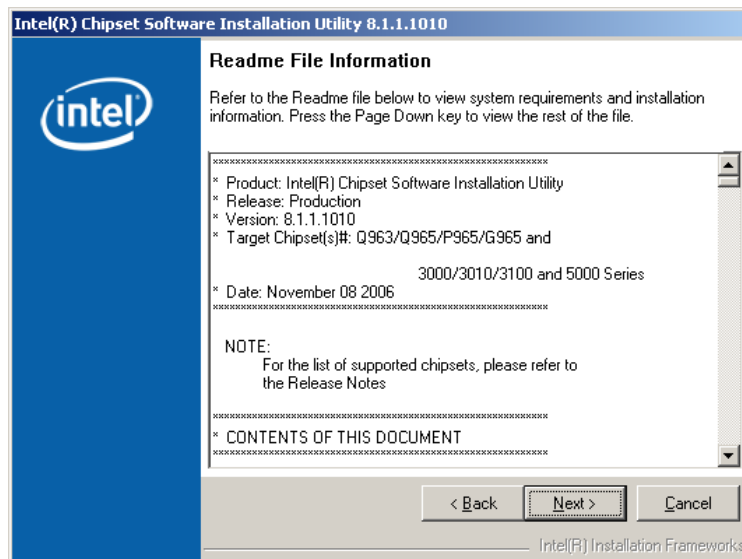

Figure 7-7: Chipset Driver Readme File Information
Step 15: The **Readme** file in **Figure 7-7** appears.